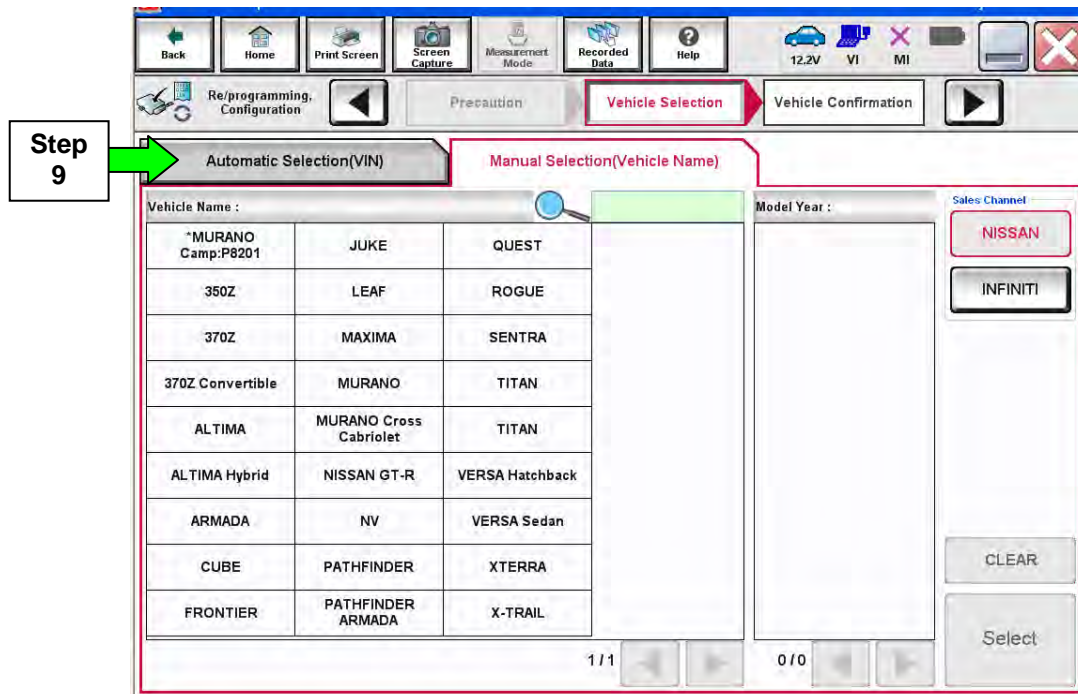

Figure C3
9. If the screen in Figure C3 displays, select **Automatic Selection(VIN)**.
- If the screen in Figure C3 does not display, skip to step 10.